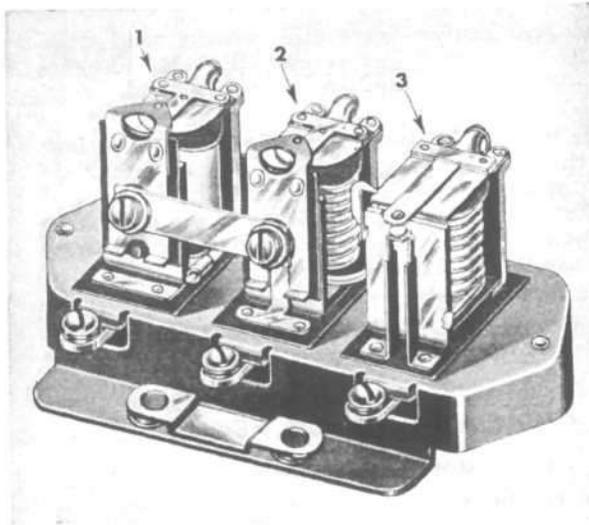

FIG. 167—VOLTAGE REGULATOR
These regulators are used with shunt type generators and have three units each with a separate function to perform. These units, Fig. 167, are the circuit breaker unit, No. 3, the voltage regulator unit No. 1, and the current limiting regulator unit, No. 2.
a. Circuit Breaker (End unit — with heavy wire winding), Fig. 167, No. 3.
b. Voltage Regulator (end unit — with fine wire winding), Fig. 167, No. 1.
c. Current regulator (center unit — with heavy wire winding), Fig. 167, No. 2.